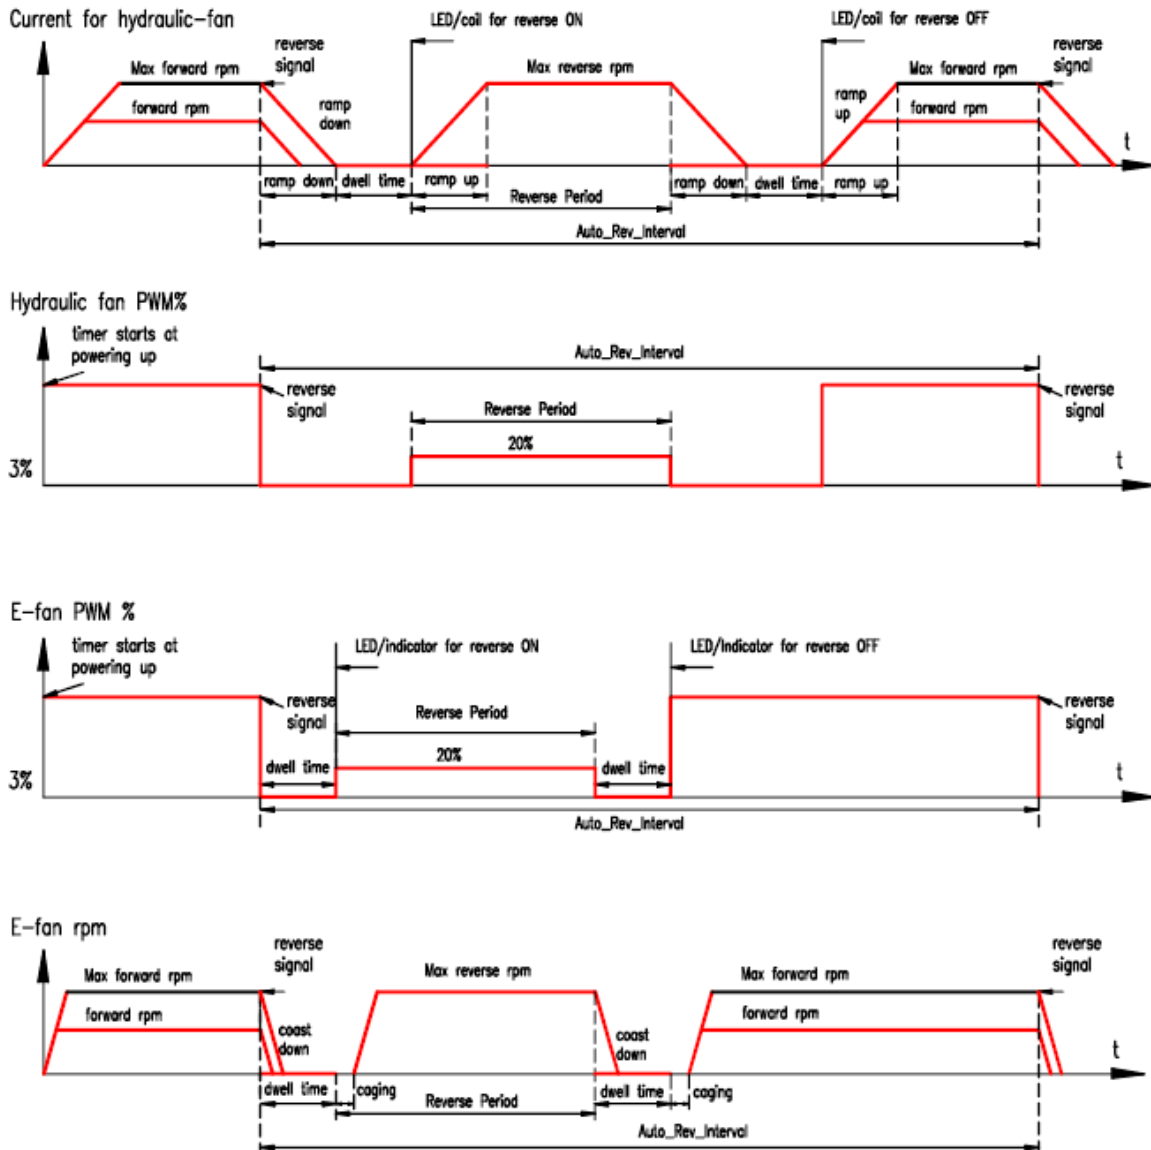

Figure 25
- **Auto Reverse Interval** (minutes) – see the EMC-6 reverse cycle definition, see Figure 25. It is the time between the 1st reverse signal and the 2nd auto reverse signal.
- **Reverse Period** (seconds) – see the EMC-6 reverse cycle definition, see Figure 25. It is the total time of ramp up in reverse direction, full fan reverse time and ramp down time in reverse direction. Ramp up and down time equal to the dwell time set on the “Global Settings”.
- **Direction Change Dwell (Seconds)** – see the EMC-6 reverse cycle definition, see Figure 25. For hydraulic fan, dwell time equals the ramp down and ramp up time (fan changes from max rpm to 0 or vice versa). For E-fan, dwell time is the coast down time plus 0rpm time before entering reverse cycle and getting out of reverse cycle.